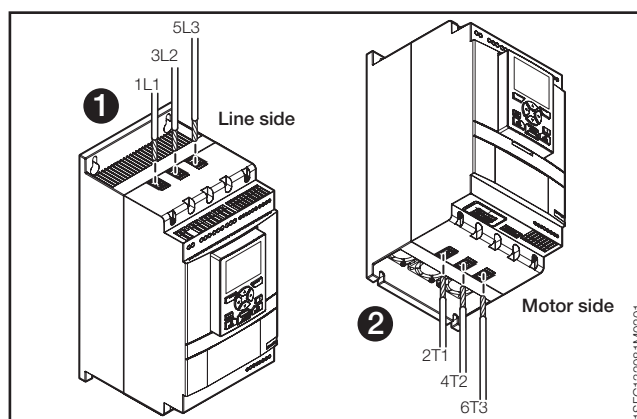
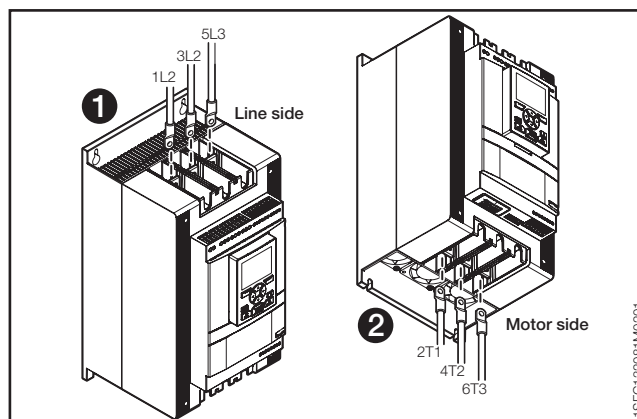

Figure 2.2
Figure 2.3
- Connect the main circuit: terminals 1L1 - 3L2 - 5L3 to the line side **1**, and terminals 2T1 - 4T2 - 6T3 to the motor side **2**, see **Figure 2.2**. Use wire connection for PSTX30...105, see **Figure 2.2** and terminal connection for PSTX142...570, see **Figure 2.3**.
- Connect the line side to terminals 1L1, 3L2, 5L3. see **1** and **Figure 2.2**. Connect the motor to terminals 2T1, 4T2, 6T3 on the motor side, see **2** **Figure 2.2** and **Figure 2.3**.